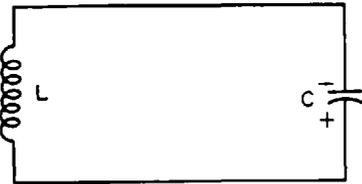

Fig. 40-1. A simple oscillatory circuit.
**The Simple Oscillator Circuit.** In its essence, the oscillator consists of a coil and capacitor hooked together (Fig. 40-1). Assume that the capacitor is charged. Electrical energy is contained in the *dielectric* or *electrostatic* field of the capacitor. The capacitor starts to discharge. Electrons flowing through the coil set up a *magnetic*